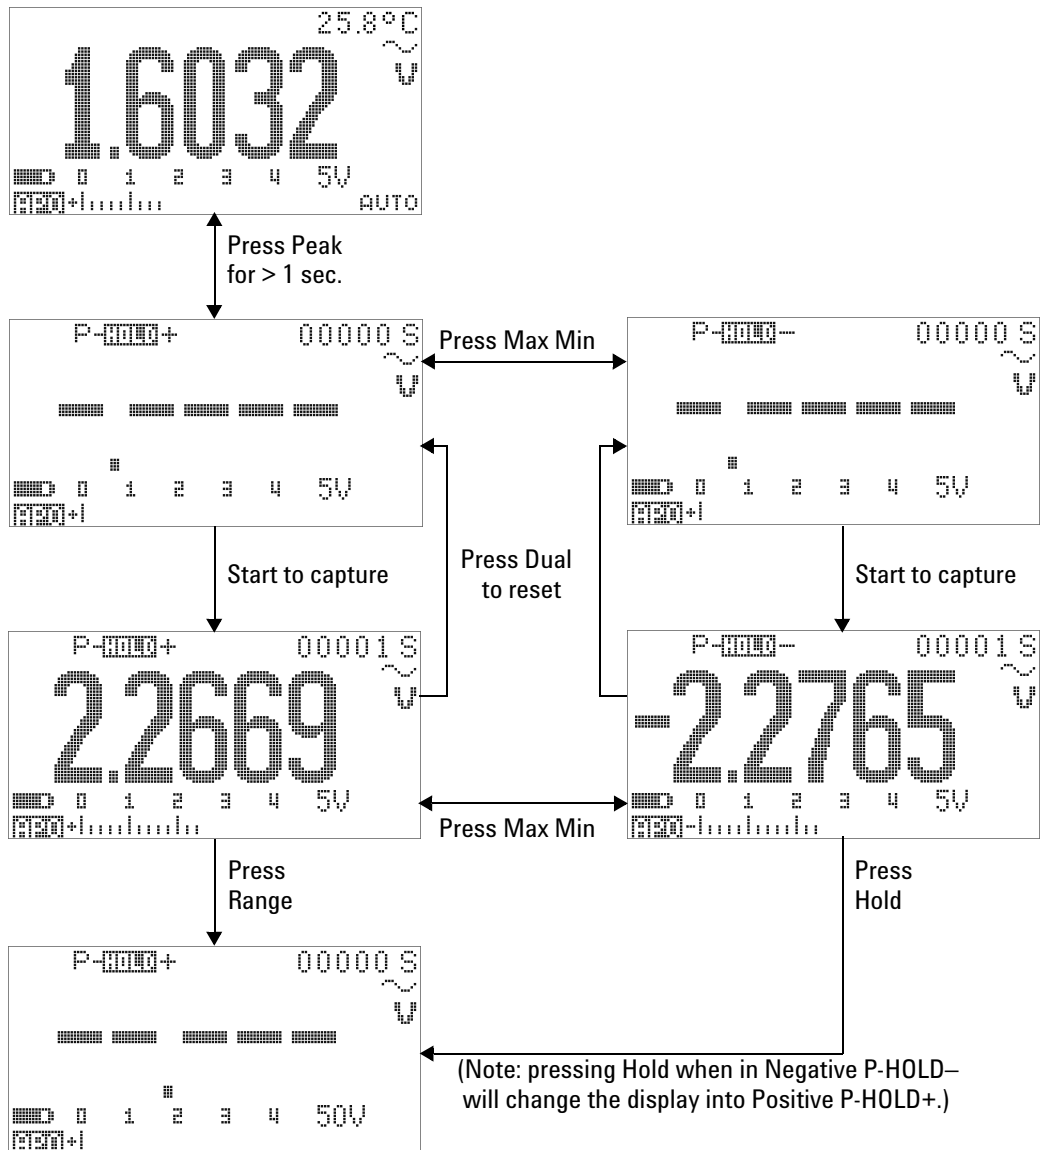

Figure 3-7 1 ms peak hold mode operation
- 4 In the measurement example shown in **Figure 3-7 on page 74**, the crest factor will be $2.2669/1.6032 = 1.414$.